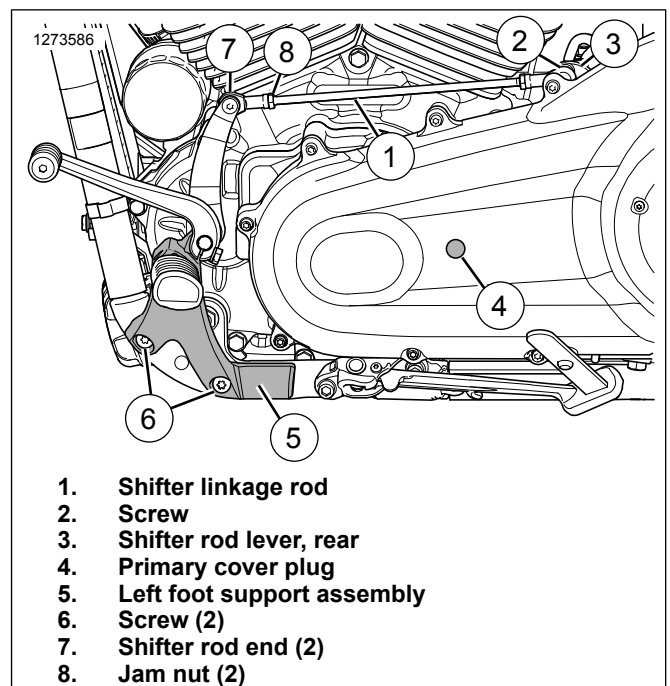

Figure 5. Left side forward controls
- b. See Figure 5. Apply threadlocker to screws (6).